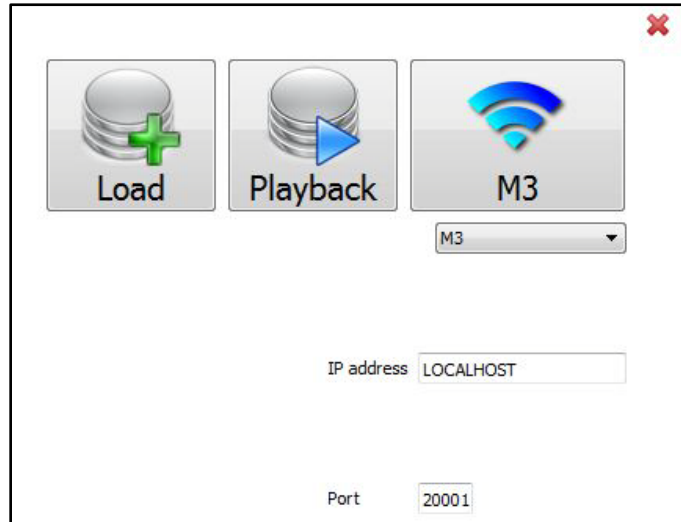

Figure 29. M3 Interfacing
4. Pick **M3** from the dropdown menu (Figure 29).